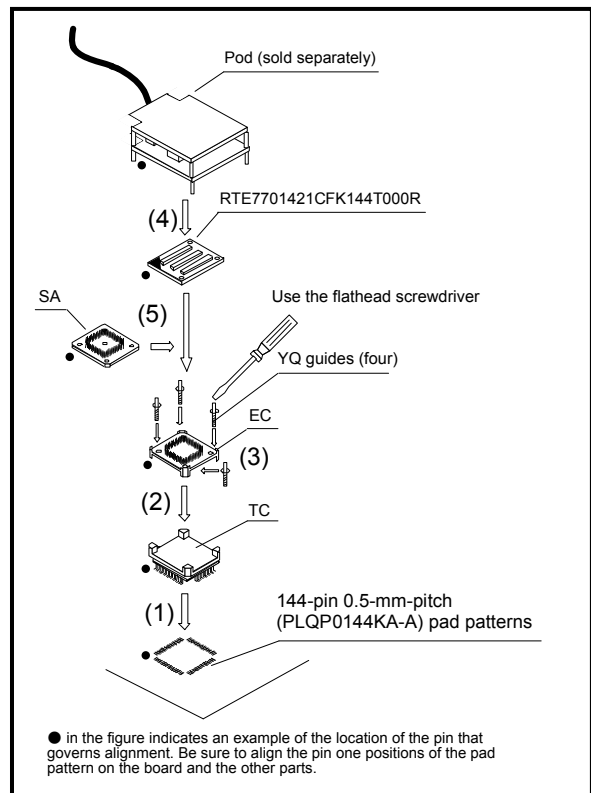

Figure 3 Procedure for Connecting the RTE7701421CFK144T000R
5. Connection Procedure (See Figure 3)